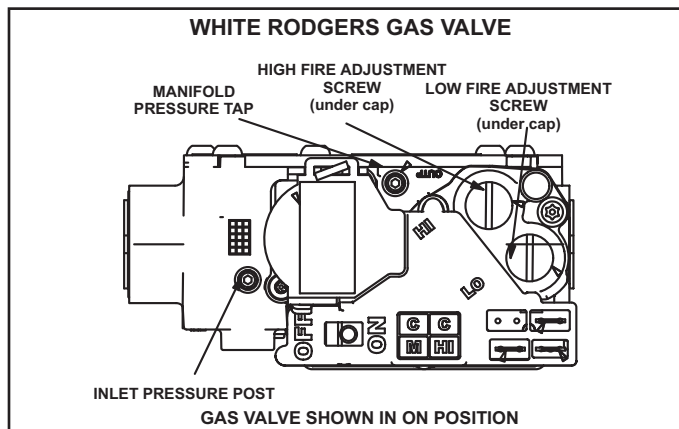
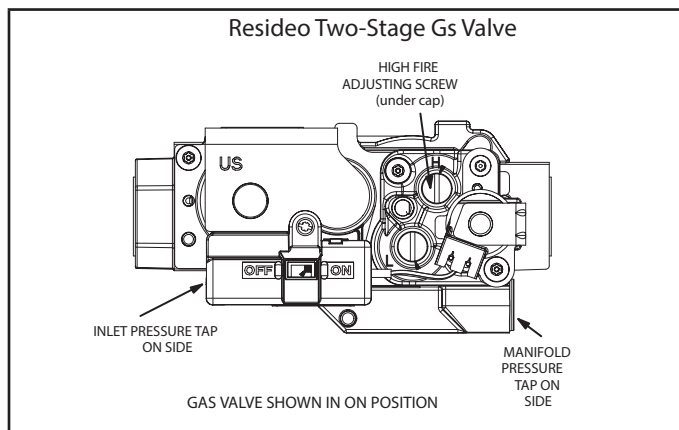

FIGURE 17
FIGURE 18
The valve (FIGURE 17 or FIGURE 18) is internally redundant to assure safety shut-off. If the gas valve must be replaced, the same type valve must be used.
- 6 - Turn switch on gas valve to OFF. Do not force. See FIGURE 17 or FIGURE 18.
- 9 - Turn switch on gas valve to **ON**. Do not force. See FIGURE 17 or FIGURE 18.
- 4 - Turn switch on gas valve to **OFF**. Do not force. See FIGURE 17 or FIGURE 18.
An inlet post located on the gas valve provides access to the supply pressure. See FIGURE 17. Back out the 3/32 hex screw one turn, connect a piece of 5/16 tubing and connect to a manometer to measure supply pressure. See TABLE 20 for supply line pressure.
- 1 - Connect test gauge to manifold pressure post (FIGURE 17) or tap (FIGURE 18) on gas valve.
- 4 - If necessary, make adjustments. FIGURE 17 and FIGURE 18 show location of high fire and low fire adjustment screw.